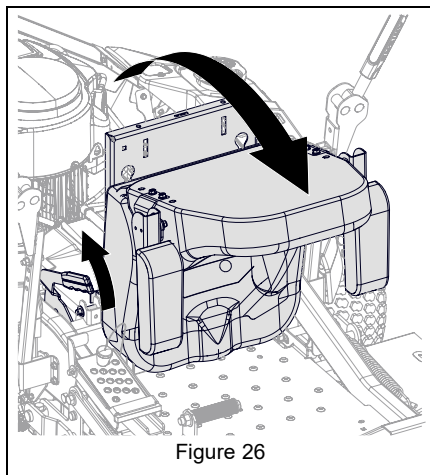

Figure 26
7. *Models 991267, 991269, 991277, 991279, 991983:* Rotate seat forward. See Figure 26.